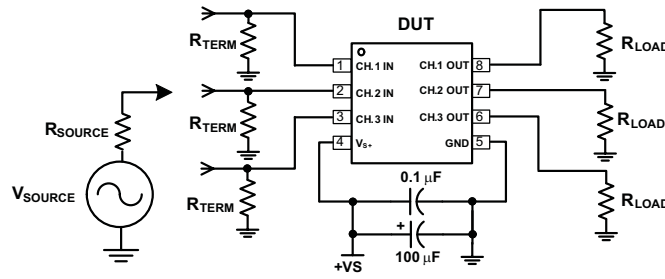

Figure 2. DC Coupled Input and Output Test Circuit
**ELECTRICAL CHARACTERISTICS  $V_{S+} = 3.3\text{ V}$ :** $R_L = 150\ \Omega$  to GND – Reference Figure 2 and Figure 3 (unless otherwise noted)
$R_L = 150\Omega$  to GND – Reference Figure 2 and Figure 3 (unless otherwise noted)